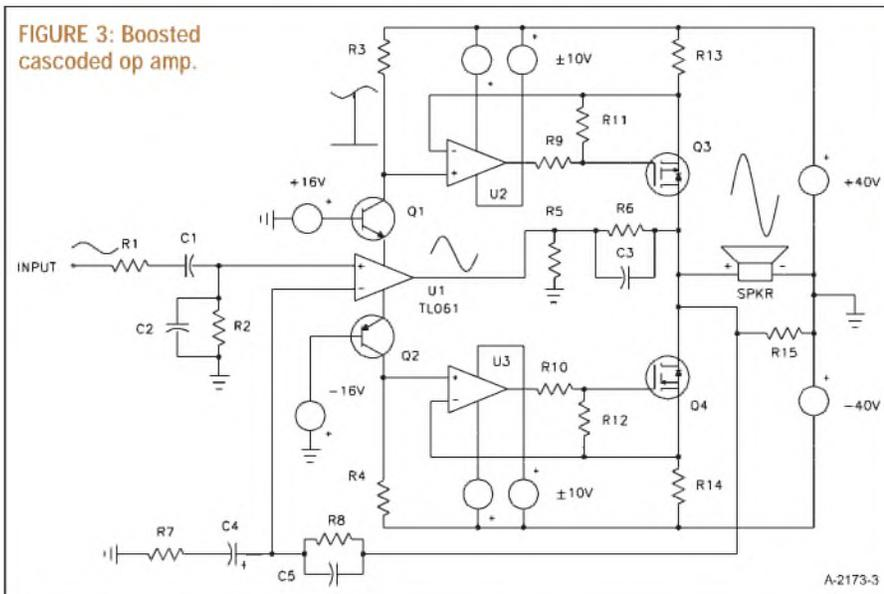

FIGURE 3: Boosted cascoded op amp.
*Figure 3* shows a unique method, employed by Velleman in their K4020 stereo power amplifier4. Again, the circuit is greatly simplified, and you could
FOR FIG. 3